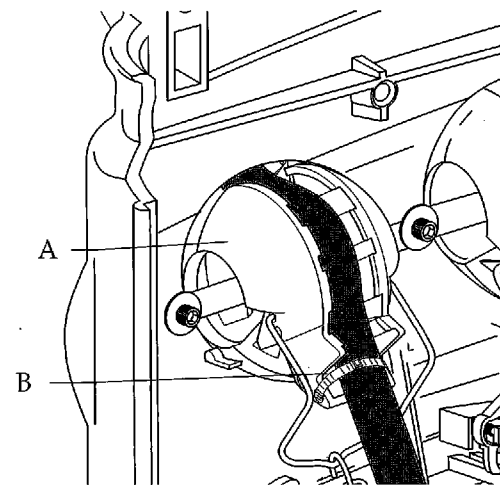

Figure 19. Cable tie the handpiece tubing to the ball of the whip. (A) whip pivot; (B) cable tie
2. Adjust the length of the handpiece tubing to the appropriate length, and cable tie the handpiece tubing to the ball of the whip. Use the syringe cable tie for reference (see Figure 19).